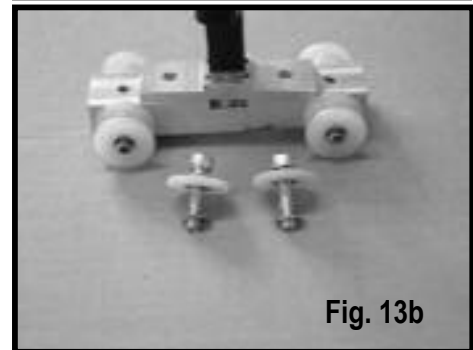

Fig. 13b
- II Remove the two allen key bolts in the top of the carriage assembly as shown in Fig. 13b. Be careful not to loose the washers and guide wheels.